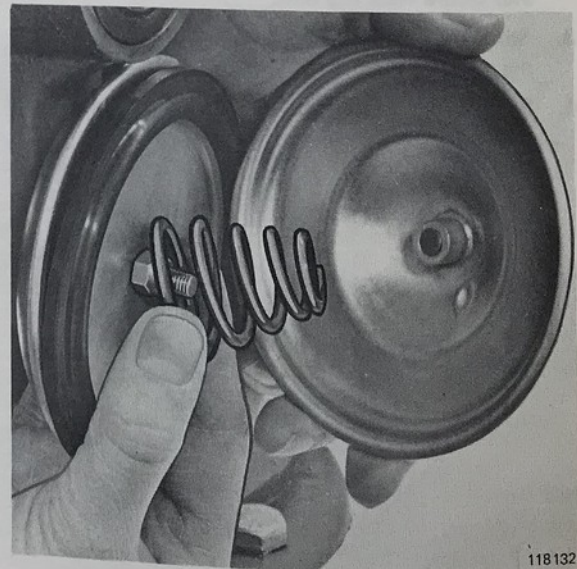

Fig. 92-20. Removing cover and spring.
1. Remove the cover for the pressure box, see Fig. 92-20. Remove the thrust spring.